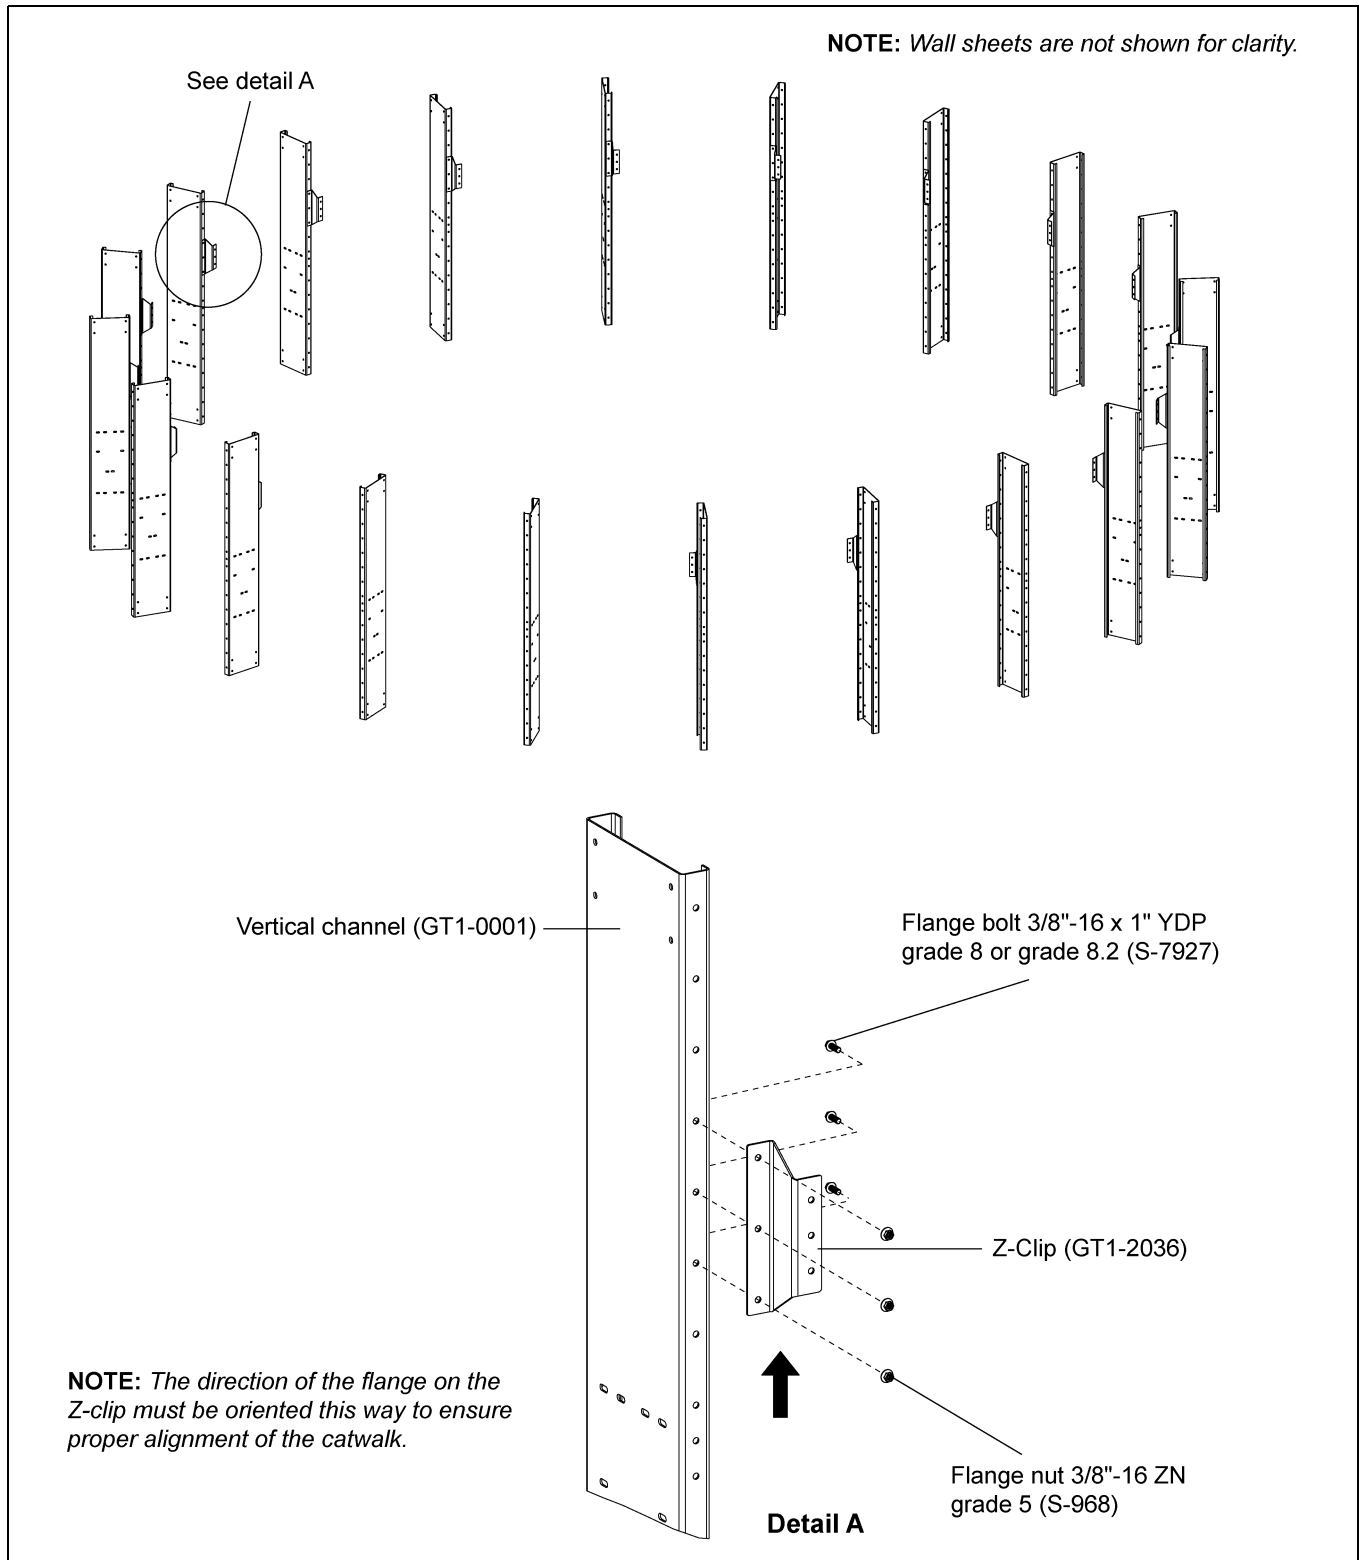

Figure 5A
1. Bolt Z-clip (GT1-2036) to all vertical channels (GT1-0001). The Z-clip can be installed on each vertical channel as the inner wall sheets are installed using 3/8"-16 x 1" YDP grade 8 or grade 8.2 bolts (S-7927) and 3/8"-16 ZN grade 5 nut (S-968). (See Figure 5A.)